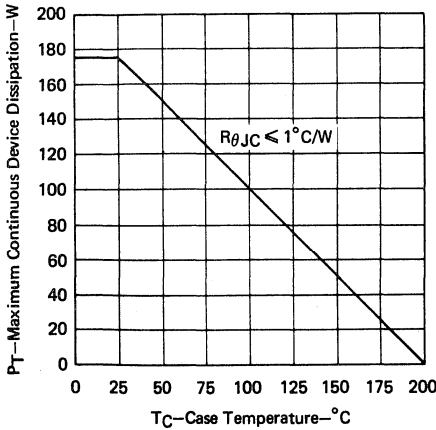

FIGURE 9
4. Derate linearly to 200°C case temperature at the rate of 0.8 W/°C or refer to Dissipation Derating Curve, Figure 9.